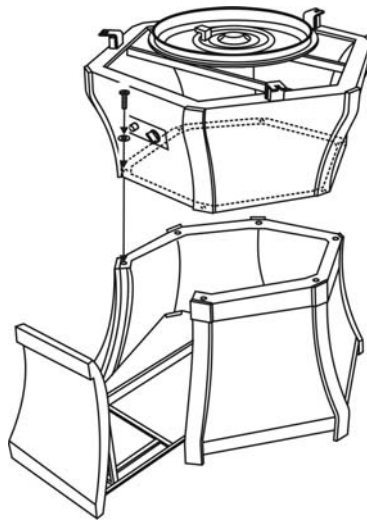

Figure 5
4. Attach the upper frame (T) to completed bottom frame by using six 1/4"x30 mm bolts (P) and washers (Q) as shown in Figure.5. Guide bolts through holes in upper frame, into pre-drilled hole in the bottom frame. Hand-tighten only.